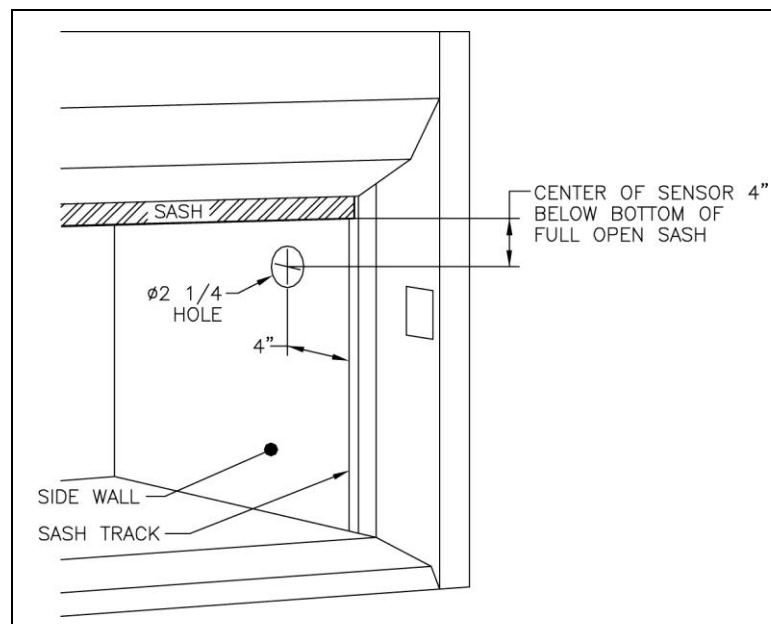

Figure 2: Velocity Sensor Location
4. Determine VELOCITY SENSOR location. Use Figure 2 as a guideline.